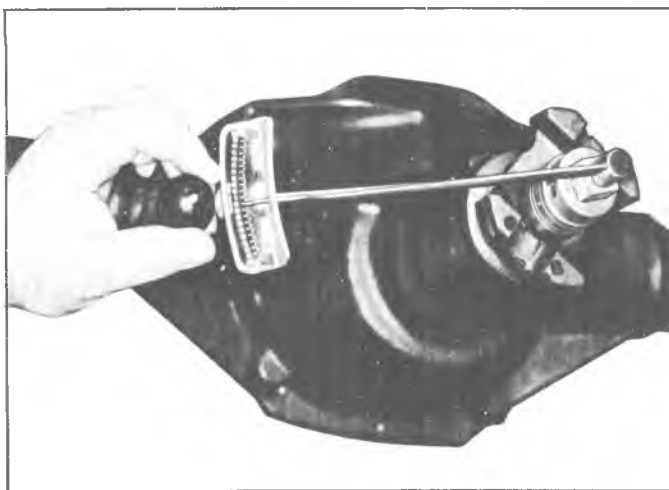

Fig. 23B--Measuring Rotating Torque
7. While observing the preceding caution, carefully set preload drag at 20-25 inch pounds on new bearings, or 10-15 inch pounds on reused bearings. Use an inch-pound torque wrench such as J-5853, as shown in figure 23B, to measure the rotating torque.